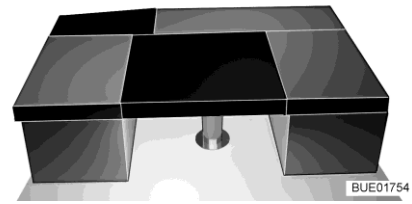

Fig. 120 After conversion
- Place the rectangular additional cushion on the table (between the seat cushions of the benches, see Fig. 120).